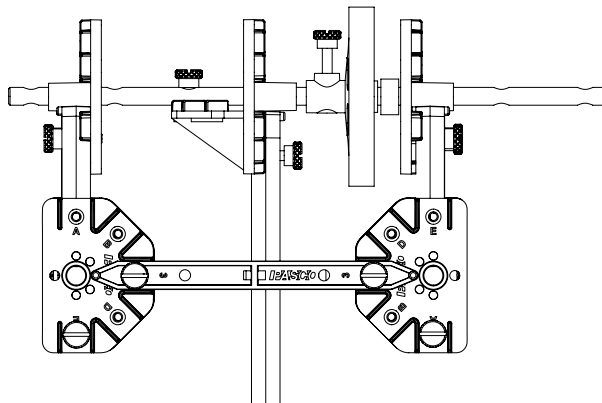

Figure 11: Side view of the damping pendulum with the full round connector and tire secured to the axle.
10. Attach the full round connector and the wheel "hub" to the medium axle using truss set screws. Adjust the position of the full round connector on the axle so that the third hole in the axle is below a threaded hole on the connector, as shown in Figure 11. Insert a screw into the threaded hole on the wheel "hub" and tighten it until the screw makes solid contact with the axle.